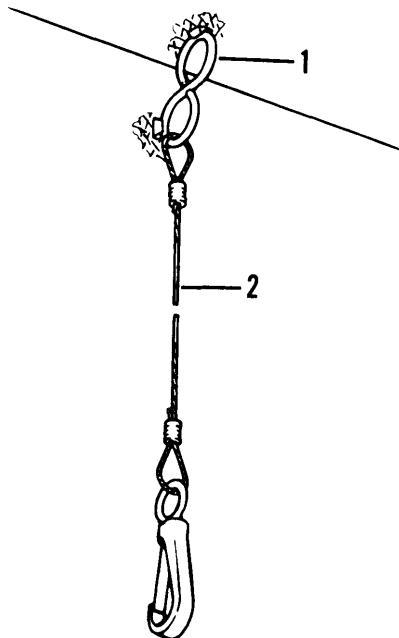

Figure 4-49. Stake Retainer
(1) Using cutting torch, cut weldment (fig. 4-49).
(2) Grind weld off frame surface.
(3) Repeat steps 1 and 2 for other stake retainers as needed.
- (1) Position s-hook (1, fig. 4-49) and stake retainer (2) according to recorded measurements.
- (2) Weld s-hook (1) and stake retainer (2) to frame using arc welder. Refer to TM 9-237.
- (3) Repeat steps 1 and 2 for other stake retainers as needed.